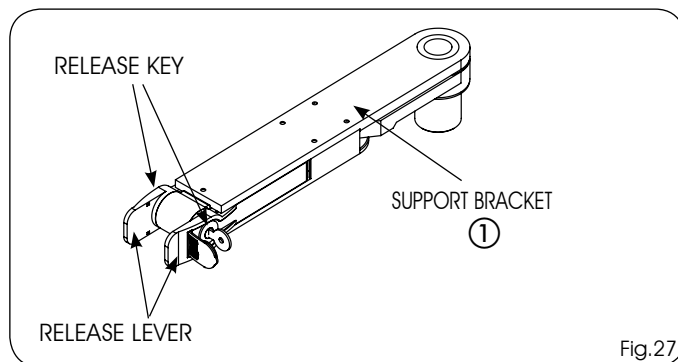

Fig.27
The device is inserted on the gate support bracket (Fig.27 ref. ①) and enables you to release the system from both inside and outside the premises.
- 1) Move the release lever back to its rest position (Fig.27)